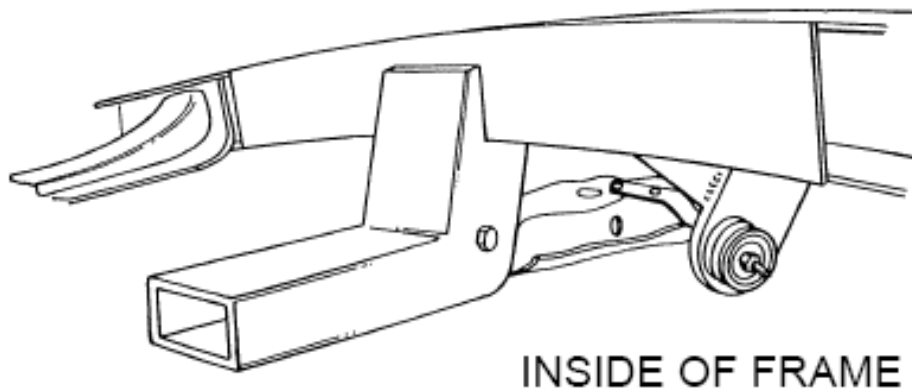

Figure 6- Strut Rod Install
11. Install the strut rod onto the control arm. Now, assemble onto the strut rod the large rubber bushings, including the cupped washers, and the strut mount plate. Be certain to fully tighten the nut on the strut rod to its' fully seated position. See **Figure 6**. There are two rubber bushing sets available; the standard replacement and the improved set. We recommend the improved set, as it provides more stability to the front suspension. The Pinto and Mustang strut rods are different angles. We recommend the use of Pinto strut rods, as they are bent less than the Mustang strut rods and will position the strut rod plates more closely under the frame rails. The Mustang strut rods may be used, however, but must be heated in the elbow area and bent outward. The rod is bent outward until the strut mounting plate lines up to the frame rail. The strut rod will act as an alignment fixture while you tack weld the mount plate in place, then tack weld the gusset in place. Remove the strut rod, bushings, and arm, and finish welding to the frame and each other.